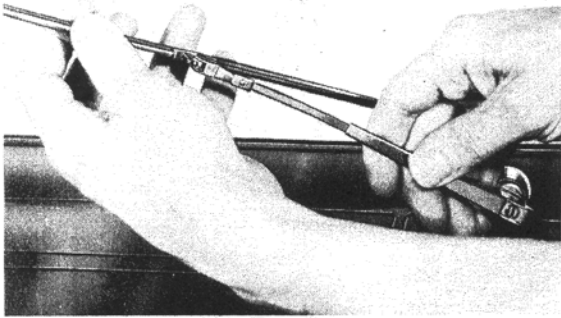

Figure 14 Removing Wiper Blade
1. Remove blade by holding the wiper arm away from the glass with one hand and pulling end of the blade, with the other hand (See Figure 14). Care should be used not to hold arm any further away from glass than absolutely necessary so that the spring inside the wiper arm is not stretched out of shape.